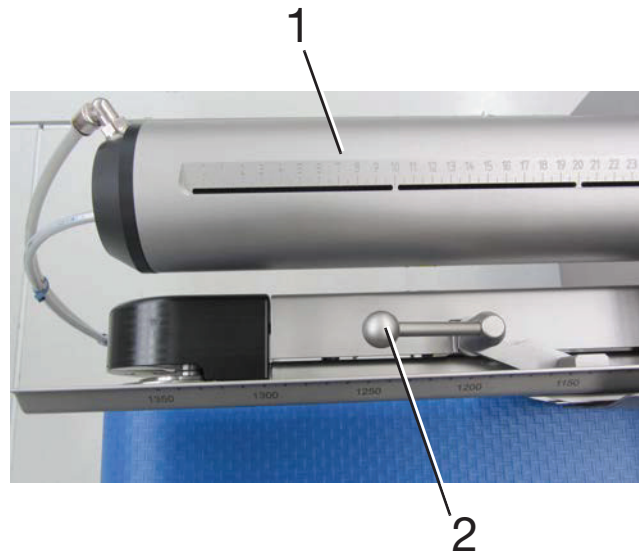

Fig. 1-13 1 Overspreading cylinder
The overspreading cylinder (1, Fig. 1-13) regularly travels out of the machine during operation. If the clamping lever (2) of the sausage guide is protruding sideways, the cylinder will travel against it, presenting a risk of crushing.
- The clamping lever must point towards the direction of flow of the meat, see Fig. 1-13.